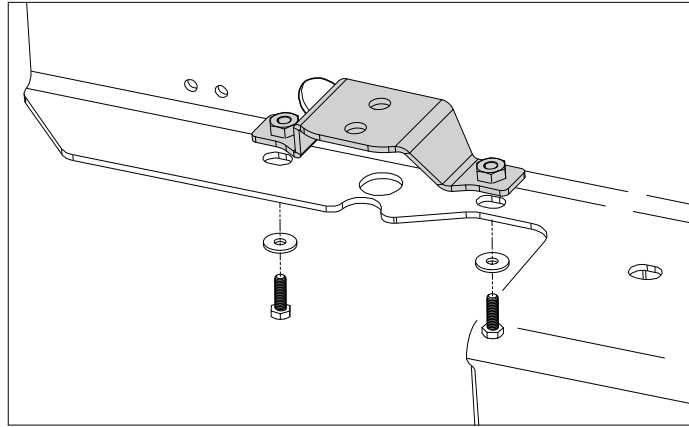

Figure 25
- A. Using two M6x20 hex head bolts and washers, loosely install the Auxiliary Light Brackets onto the bumper at both ends (fig. 25).